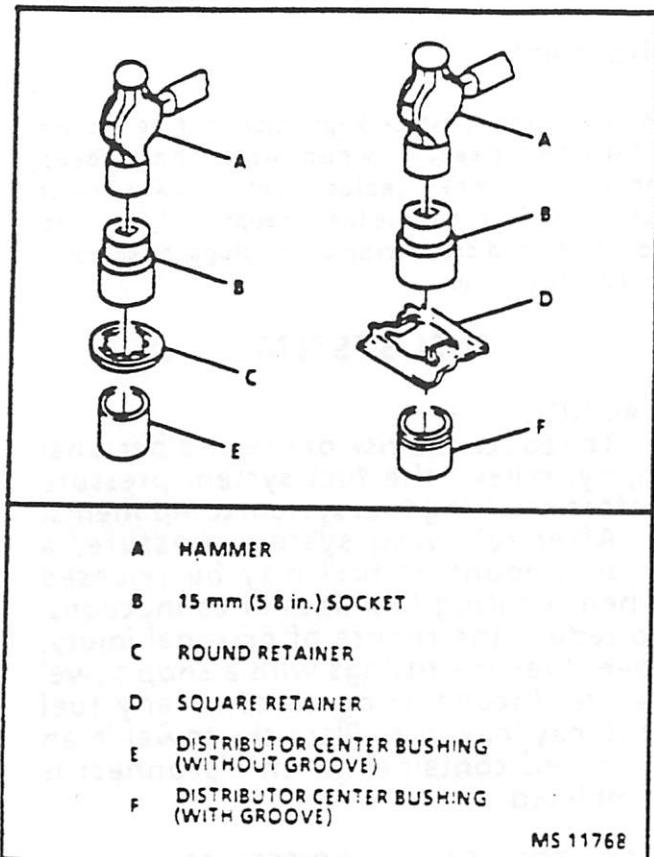

Figure 16 - Retainer to Shield Installation
2. Pickup coil (7).
4. Shield (6) onto the coil.
5. Retainer (5) onto the housing (Figure 16).
6. Shaft assembly (4) into the housing (11).
7. Tang washer (12), washer (13), and driven gear (14) onto the bottom of the shaft (distributors for six and eight-cylinder engines).
8. Roll pin (15) into the gear.
9. Rotor (3) onto the shaft.